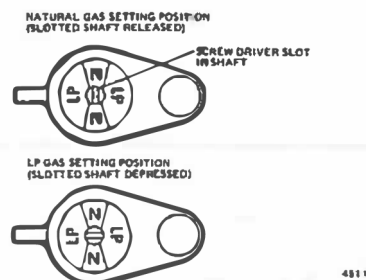

Fig. 8. Natural and LP gas settings, V5309.
The Nat, and LP gas settings are selected by positioning the slotted shaft as shown in Fig. 8.
- b. With a small screwdriver, depress and rotate the shaft so the slot is in line with "LP" stamped on the bushing (Fig. 8).
- b. With a small screwdriver, rotate the shaft so the slot is in line with "N" stamped on the bushing (Fig. 8).